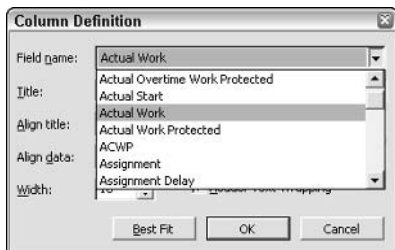

Figure 12-13: Add the Actual Work column from the Column Definition dialog box.
2. Choose Insert ⇨ Column to open the Column Definition dialog box, as shown in Figure 12-13.